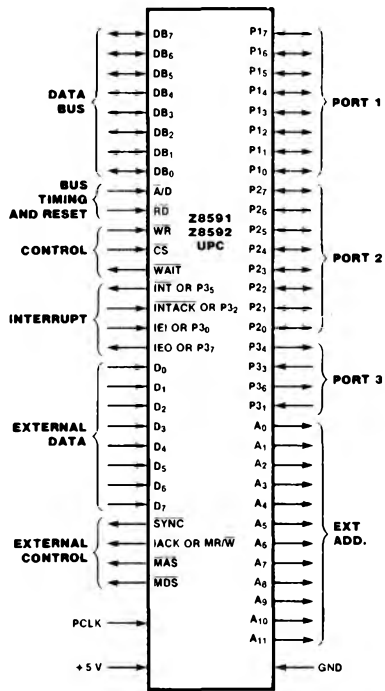

Figure 9. Z8591/Z8592 UPC Logic Functions
**64-Pin and Piggyback Pin Functions.** Forty of the pins on the 64-pin and piggyback versions have functions identical to those of the 40-pin version. The remaining 24 pins have additional functions described below. (Figures 9 through 11 show the 64-pin and piggyback versions' pin functions and pin assignments.)